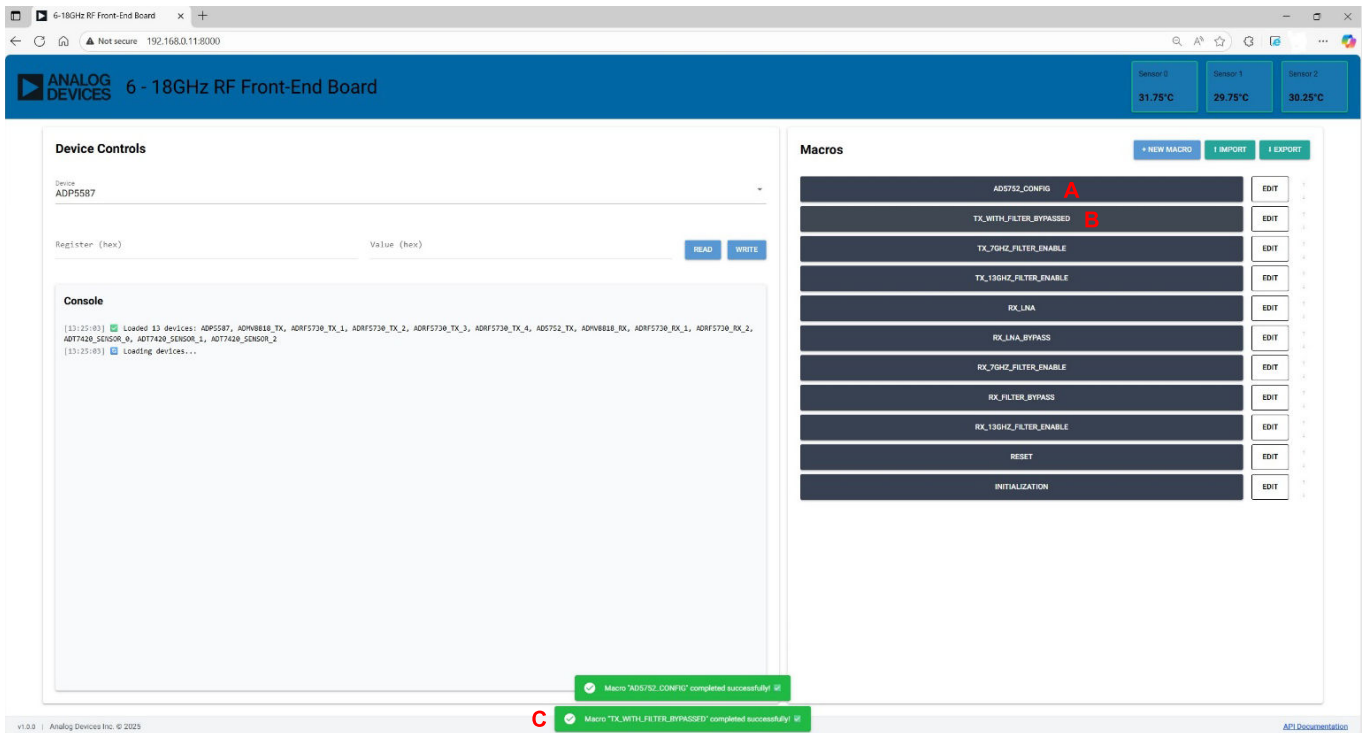

Figure 8. Device Controls
1. Click on the **AD5752_CONFIG** macro button to configure the nano-DAC for the LO nulling routine. (Label A in Figure 8).
2. Click on the **TX_WITH_FILTER_DISABLED** macro button. (Label B in Figure 8).
Green boxes flash at the bottom of the screen to indicate that the macros are successfully executed. (Label C in Figure 8).